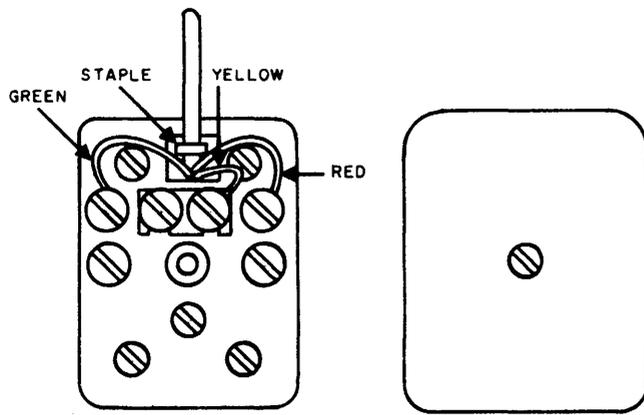

Figure 34. Murdock Number M-53 Connecting Block.
7.15 The Murdock number M-53 block is suitable only for line cords equipped with wing-band strain relief and also requires stapling of the station wire at the point of entry. Since this point is open on both the side and base of the block, the latter may be positioned so that the opening covers the staple (Figure 34). The opening should be located directly over the wire exit hole in the wall or baseboard, if possible. For four-terminal use, the strap between the two center terminals may be removed, and the terminals used individually. This block is unusual in having five mounting holes, which will accommodate a screw no larger than number 6.